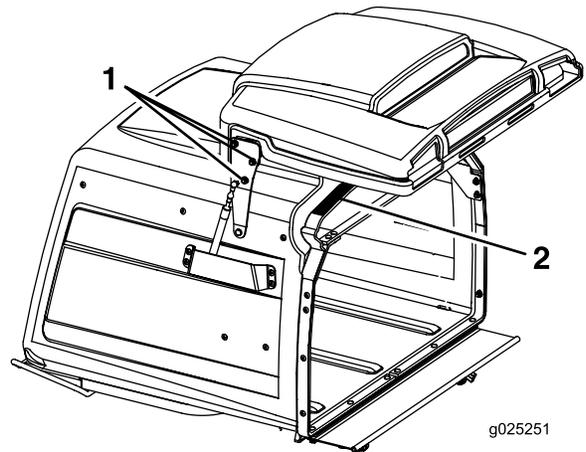

**Figure 60**
3. Locate the brake spring and thread the 2 jam nuts out to the end of the brake-spring rod (Figure 60).